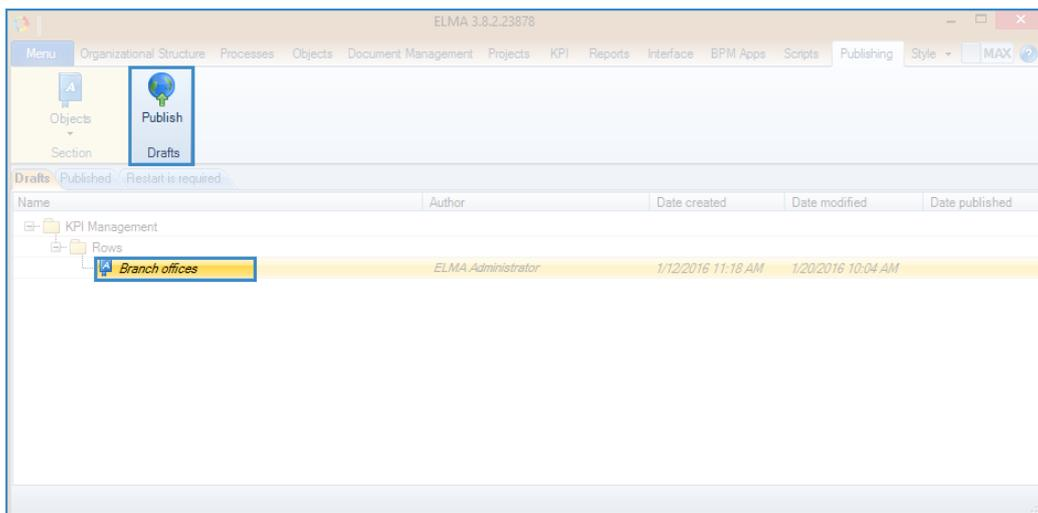

Fig. 12. Publishing created row
- Move the cursor to the created row (Branch offices) and click on **Publish** button (Fig. 12);